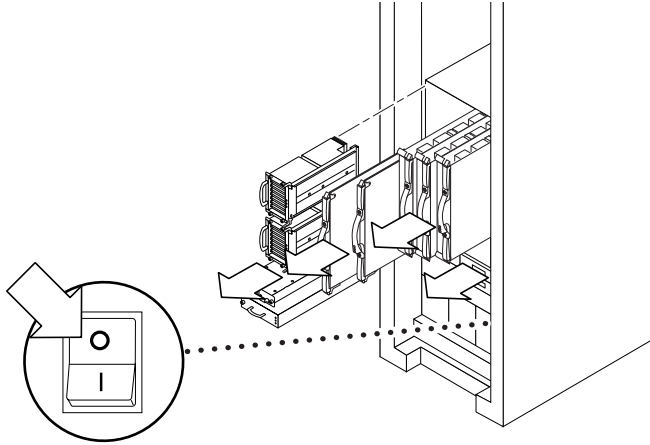

FIGURE 12-13 Removing All Boards, Fan Trays, AC Input Box, and Power Supplies From the Front of the Sun Fire 4810 System
- d. Remove all boards (including filler boards), fan trays, and the AC input box (FIGURE 12-13).
- b. Remove all three power supplies (FIGURE 12-13).
9. At the front of the system, replace all boards (including filler boards), fan trays, the and the AC input box (FIGURE 12-13).
7. At the front of the system, replace all the power supplies (FIGURE 12-13).